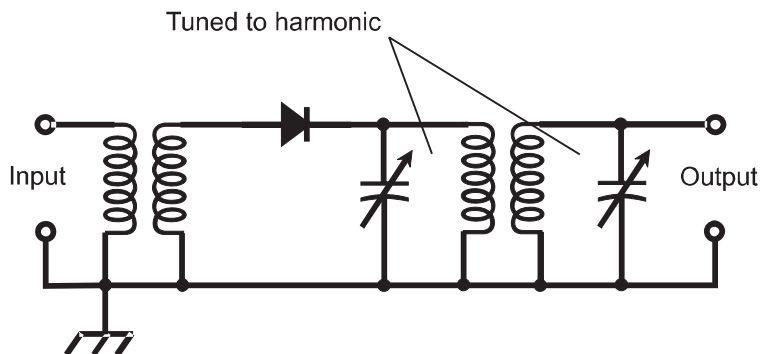

Fig. 5-7. A diode can be used in a frequency-multiplier circuit.
A simple frequency-multiplier circuit is shown in Fig. 5-7. The output inductance-capacitance (LC) circuit is tuned to the desired *n*th harmonic frequency, nf_o , rather than to the input or *fundamental frequency*, f_o . For example, if you want to multiply an input signal at 5 MHz by a factor of 3, the output is tuned to $3 \times 5 = 15$ MHz.